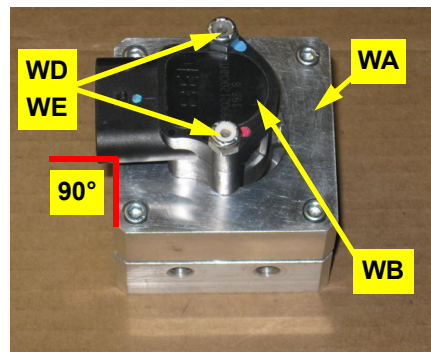

Figure 1a: Mounted WAS wire connector
- Using the provided hardware **WD** and **WE**, attach the WAS wire connector (sensor) **WB** to the WAS housing **WA**. Install the bolts up through the bottom of the housing. The WAS wire connector **WB** can be mounted 90° to any of the WAS housing **WA** sides (Figure 1a).